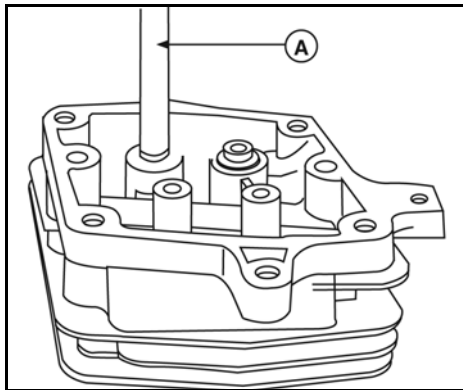
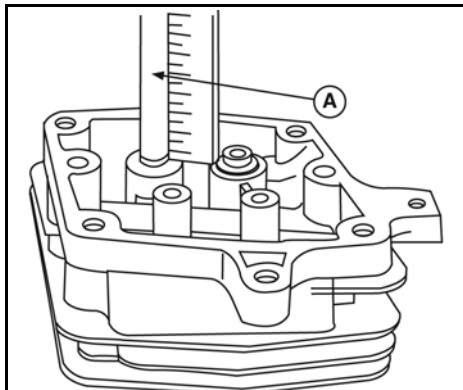

Figure 10
Figure 11
**NOTE:** To replace valve guides (models 97700, 99700), use Valve Guide Driver #19367 (A, Figure 10) to press out the guides. Then, using the same tool, press either end of the new guides into the head until 1/8" (3.2 mm) above flush (A, Figure 11).